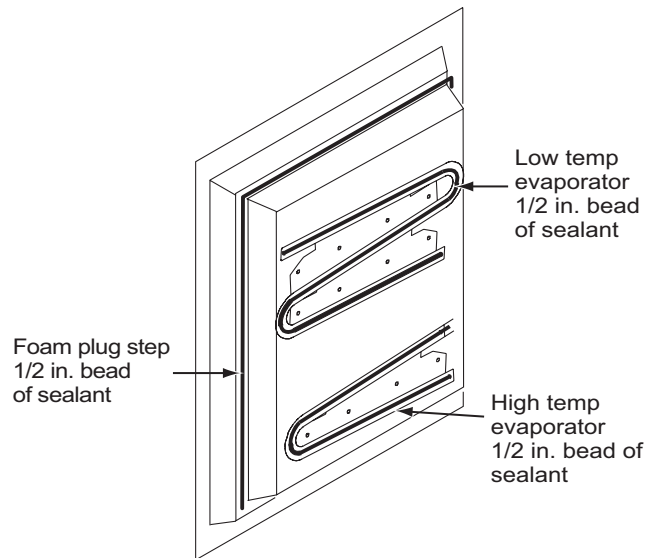

Figure 36. Application of sealant
2. Apply a 1/2 inch bead of sealant to the replacement cooling unit's low and high temperature evaporators, and to the foam plug step. See Figure 36, page 38.